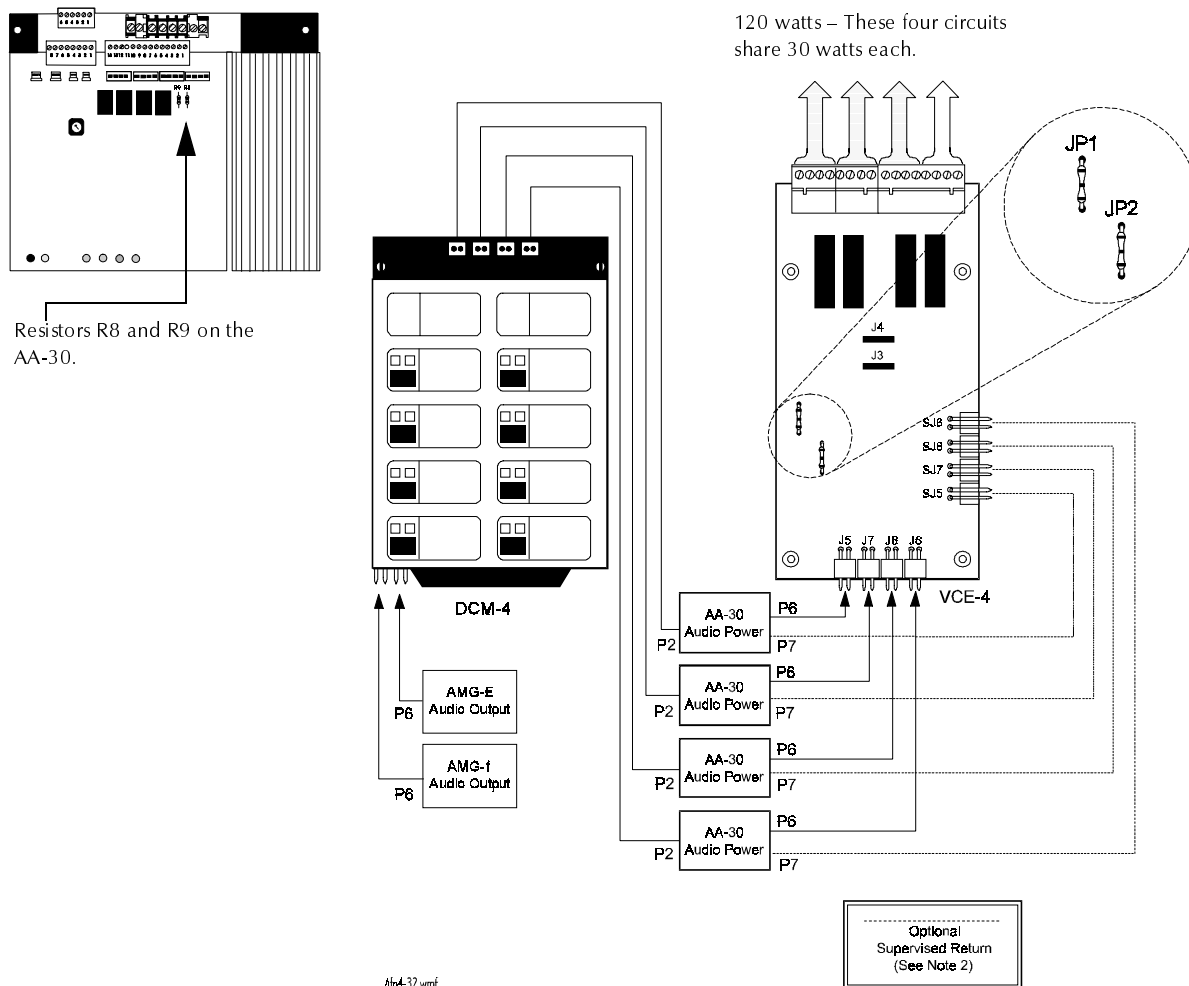

Figure 4-39 Typical 120-Watt Dual Channel Configuration (AA-30)
120 Watt Dual Channel (AA-30s)	Figure 4-39 on page 4-33
2. If using an optional supervised return, cut resistors R8 and R9 on the AA-30 (for location of R8 and R9, see Figure 4-39).
4. For dual-channel operation, cut VCE-4 jumpers JP1 and JP2 (Figure 4-39).
Figure 4-39 shows typical wiring for a 120-watt (using four AA-30s), dual-channel configured circuit: